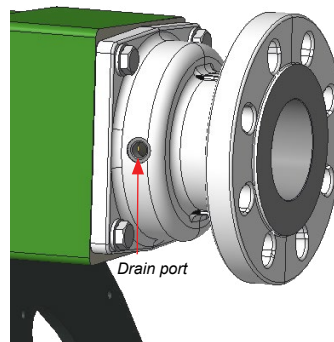

Figure 12. - Drain port without flange
8. Ensure that only the hose can be seen through the drain port on the port flange (Figure 12).